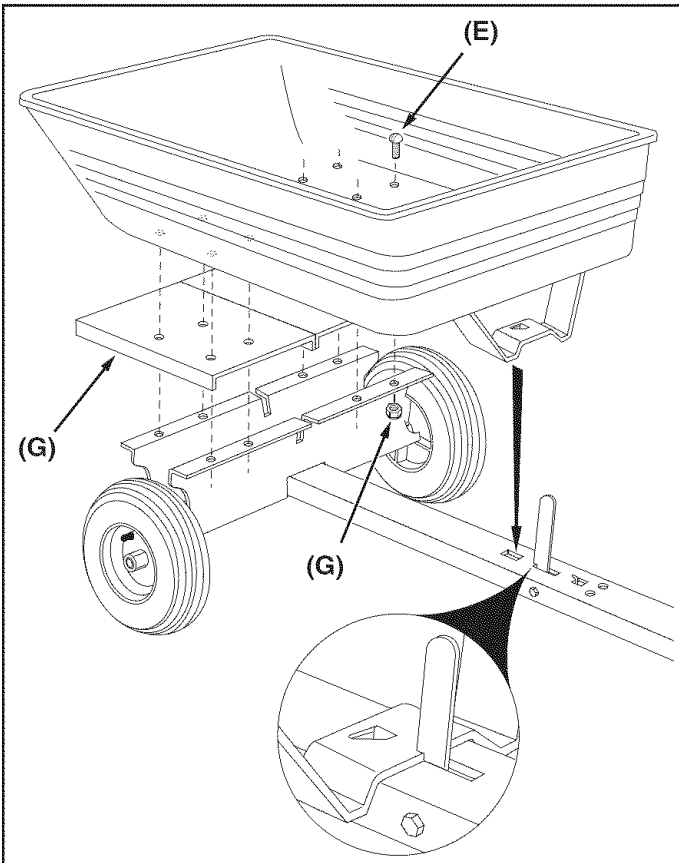

FIGURE 5
- Secure latch stand bracket underneath the latch lock lever. See figure 5.
- Assemble the cart tray, cart bed braces and wheel support together using eight 5/16" truss head bolts and 5/16" nylock nuts. **Tighten** nuts after all bolts are in place. See figure 5.